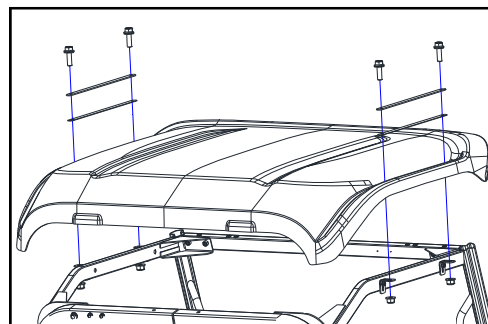

Fig. 1.1
1.1 Per, Figure 1.1, remove canopy by removing four bolts between mounting brackets and plastic canopy. Retain hardware for reuse.